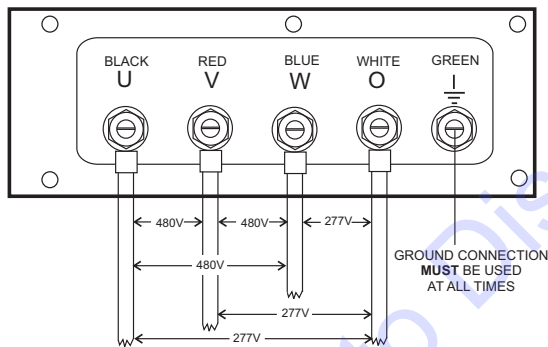

Figure 24. UVWO Terminal Lugs 3Ø-480V
2. Connect the load wires to the UVWO terminals as shown in Figure 24.